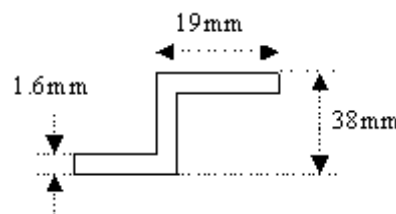

Figure 4:
6. The Z section shown in Figure 4. Is made of Al alloy 2024-73 sheet. What compressive stresses will start local buckling of element and on which element of the member? [16]